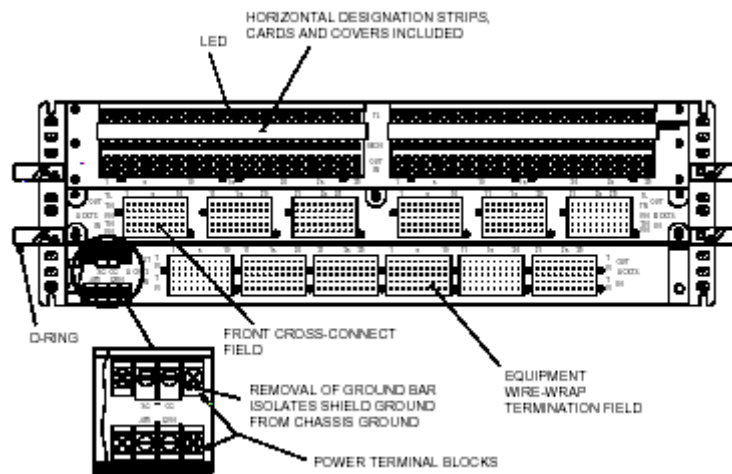

Figure 3. Rear View of Panel with Cable Tray Removed
1. Loosen two screws that secure cable tray to access equipment wire-wrap blocks (see Figure 3).